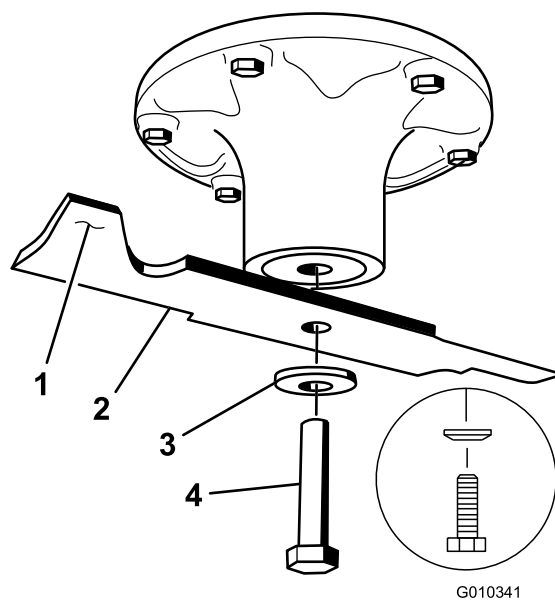

Figure 74
2. Remove the blade bolt, curved washer, and blade from the spindle shaft (Figure 74).